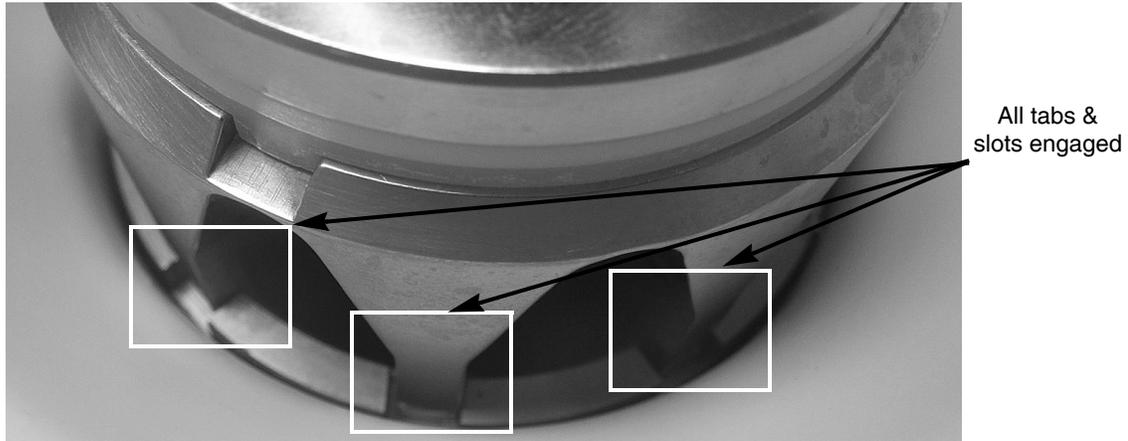

Figure 19.
3. Carefully rotate the extruder head until the tabs on the extruder head drop into the slots on the evaporator plate, as shown in Figure 19. When the auger/extruder head assembly is rotated to the proper position, it will drop about 1/4 inch to more fully engage the motor drive shaft.